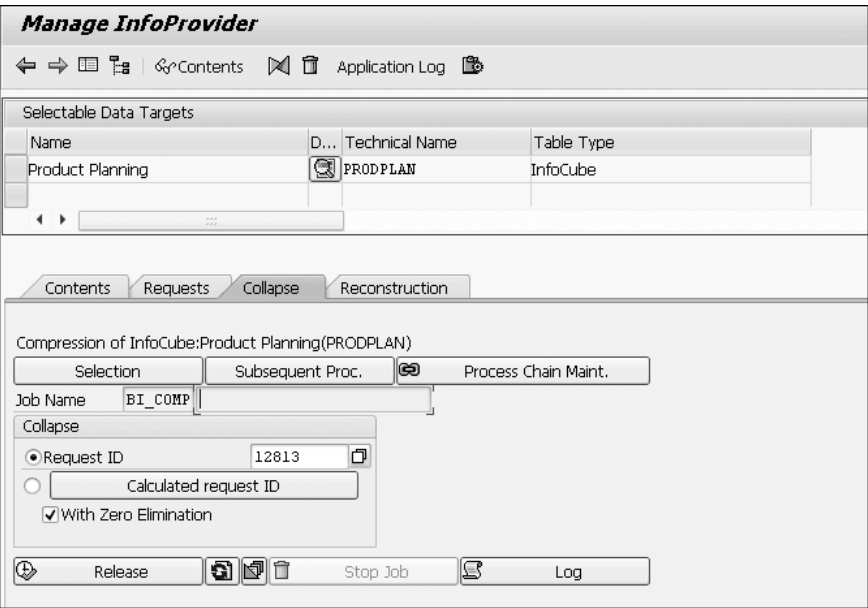

Figure 10.31 Compressing Real-Time InfoCube
5. Choose **Manage**, then go to the **Collapse** (compress) tab shown in Figure 10.31.